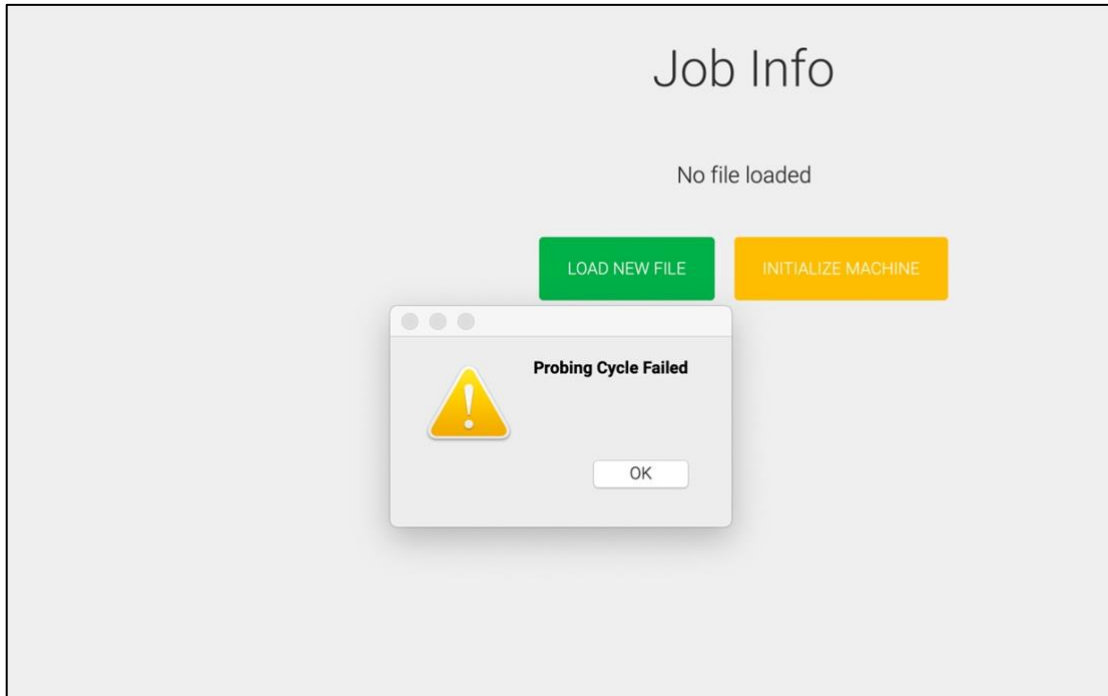

Figure 24
13. If you receive an error message, see **Fig. 24**, repeat steps 1–12 to run a new probing sequence.